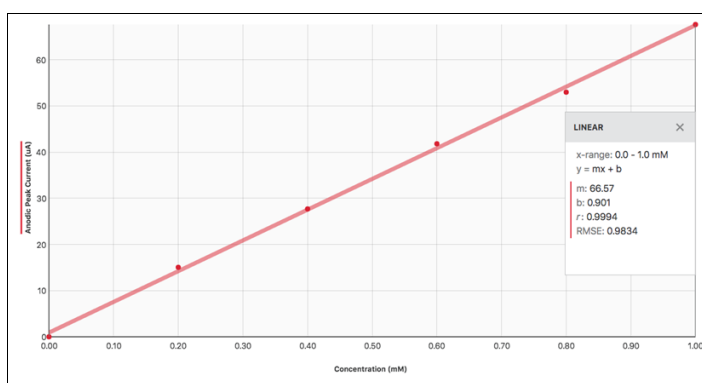

Figure 3 Calibration curve of acetaminophen standards
1. See Figure 3.
2. From Figure 3, the calibration curve is  $y = 66.57x + 0.901$